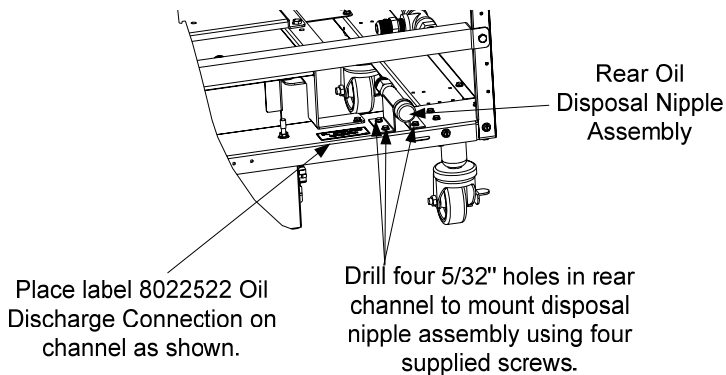

Figure 1: Attach the nipple assembly and label.
4. Drill four 5/32" clearance holes and install the enclosed oil discharge nipple assembly with enclosed screws. See Figure 1.
5. Place label 8022522 next to the oil discharge connection shown in Figure 1.